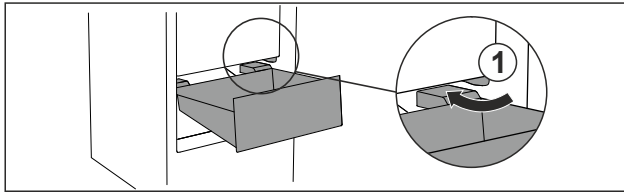

Fig. 101
- ▶ Guide drawer in at an angle around the stoppers *Fig. 101 (1)*.